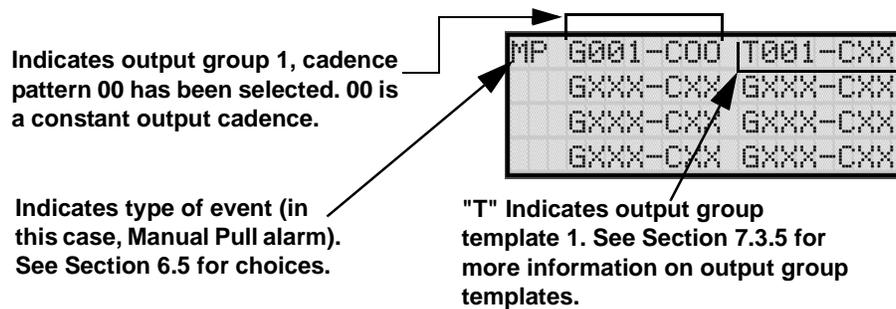

Figure 7-3 Selecting Output Groups/templates and Cadence Patterns for a Zone Event
Note: Abbreviations in the parentheses are the characters that are shown while in programming (see Figure 7-3).
6. From the next screen, a list of 8 event types will display. Select the event type you want to program. A screen similar to the one shown in Figure 7-3 will display. Press **ENTER**.
8. Select options for each event that could occur in this zone. Figure 7-3 is a complete example of how you might map a zone.